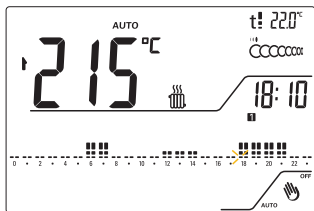
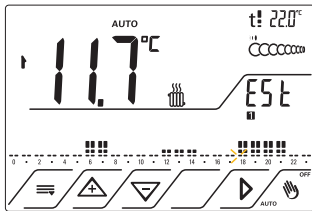

Fig.44a
Fig.44b
11.3.3 Press OK to confirm. On appears. From now on the display will show a second temperature. The display alternately shows the ambient temperature for 15 seconds, Fig.44a and the temperature measured by the probe for 5 seconds, Fig 44b.